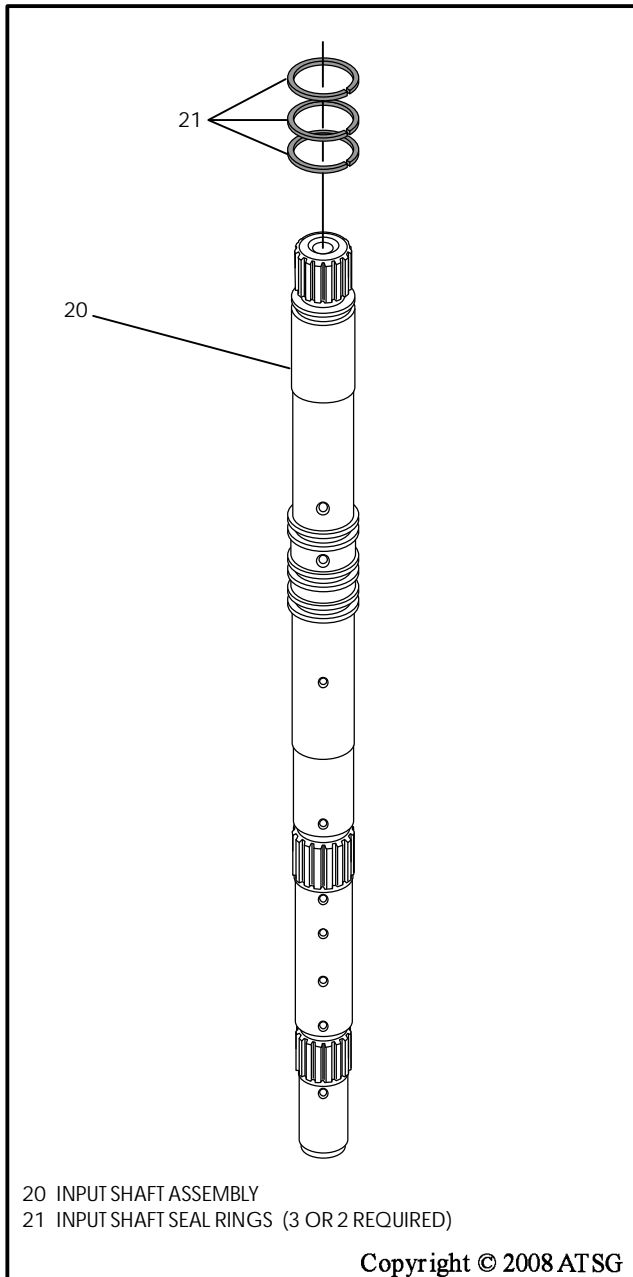

Figure 89
2. Blow compressed air through all lube passages in the input shaft (See Figure 89).
3. Install new butt-cut sealing rings on the input shaft, as shown in Figure 89.